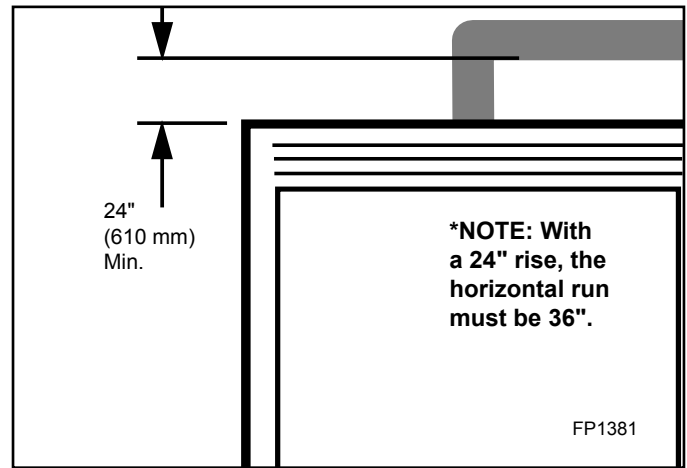

Figure 5.6 Horizontal Run with Minimum Vertical Rise
- A minimum of 24" is required before a 90° elbow. If a 90° elbow is fitted directly after 24" vertical section mounted to the top of the fireplace, the horizontal vent run before the termination must be 36" (914 mm). See Figure 5.6.